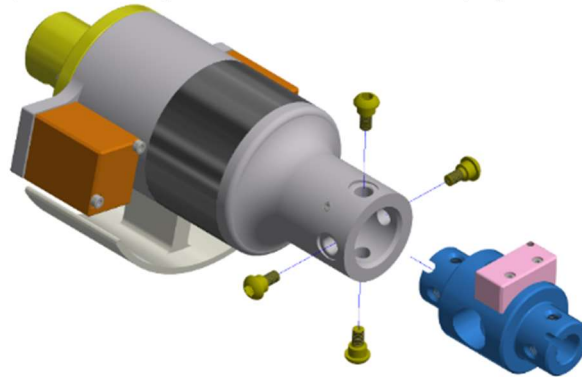

Figure 9-26. Remove the four Modified BHSS M6 Thread from the Femur Assembly (474-5160-1,2) connecting the Femur Load Cell
9.2.18 Remove the four Modified BHSS M6 Thread from the Femur Assembly (474-5160-1,2) connecting the Femur Load Cell (Figure 9-26).